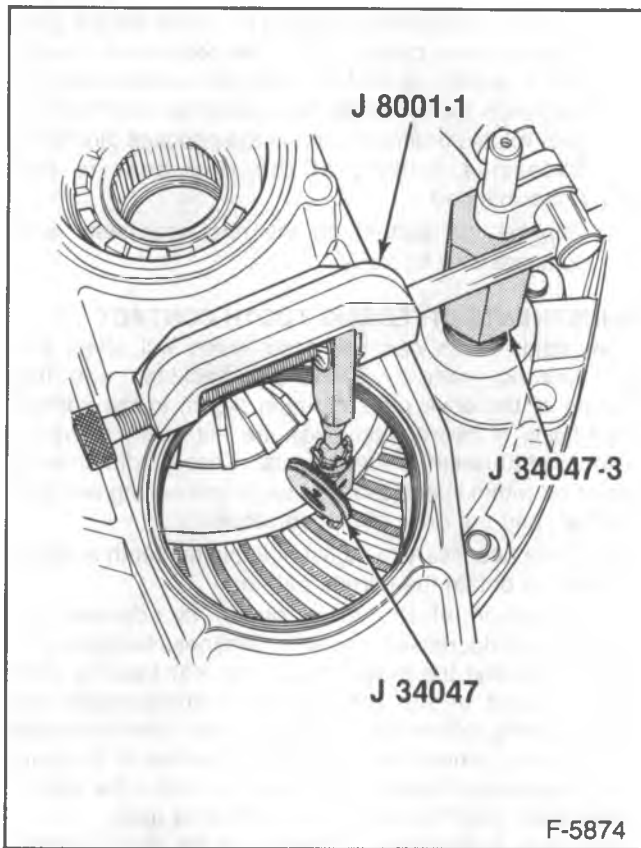

Figure 31—Measuring Backlash at the Ring Gear
8. Install J 34047-3 into the filler plug hole. Install J 34047-1 and J 8001-1 as shown in figure 31.